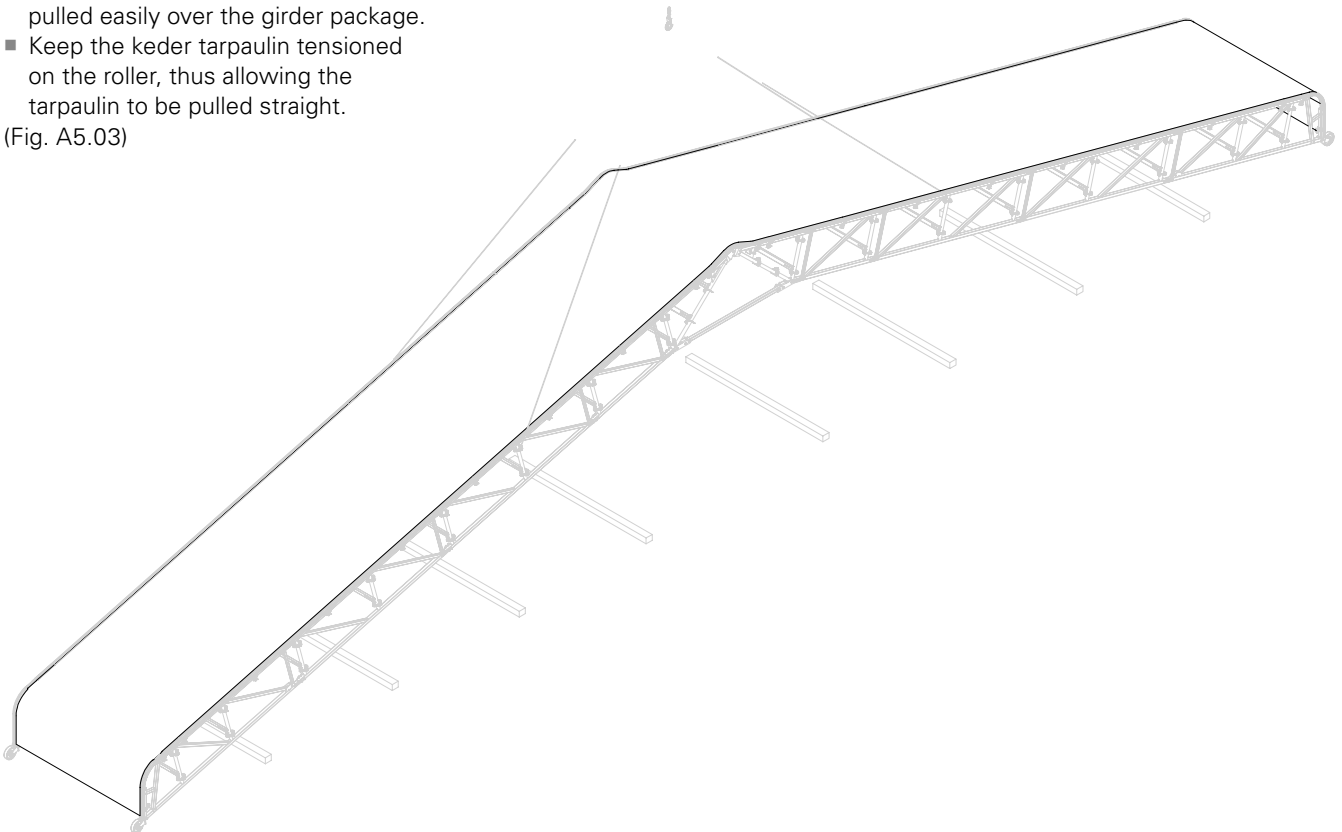

Fig. A5.04
12. Pull the tarpaulin downwards. (Fig. A5.04)